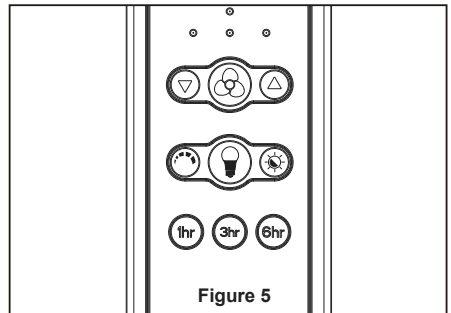

Figure 5
4. After connections have been made, the wires should be spread apart with the grounded conductor and the equipment-grounding conductor on one side of the outlet box and the ungrounded conductor on the other side of outlet box, then turn leads upward and carefully push leads into the outlet box, with the white and green leads to one side of the box and the black leads to the other side. (Figure 5)
- 5. Remove one of the three screws in the lower housing assembly. Retain the screw for later and slightly loosen the remaining two screws. (Figure 5)
5. Remote functions: (Figure 5)